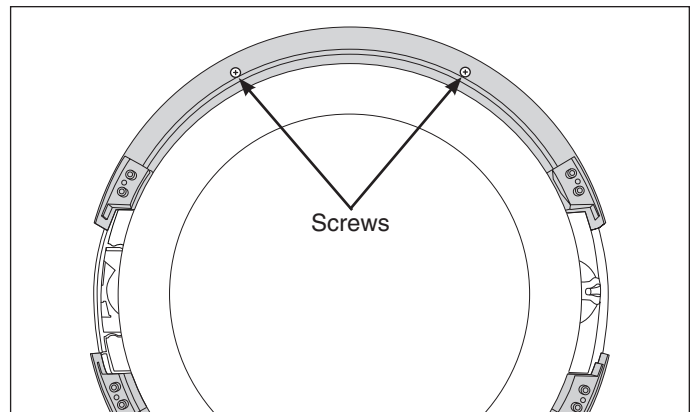

Figure 4-6.
3. Using a #2 square bit screwdriver, extract the screws from the two retaining covers and pull from door assembly. (See Figure 4-6)